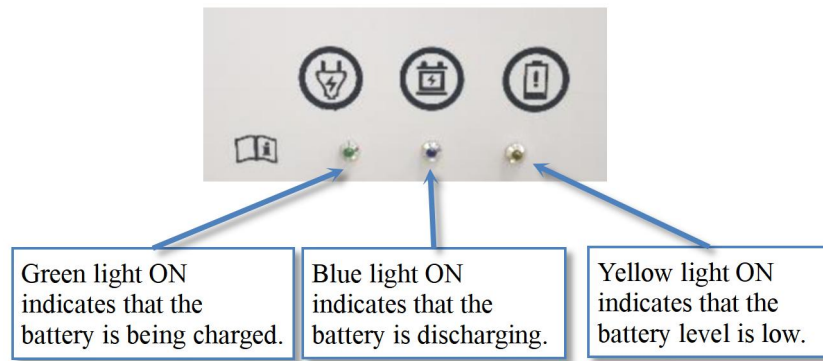

Figure 3.10 Surgeon Console UPS battery indicator
7. Battery indicator: Displays the current battery status of the UPS, as shown in Figure 3.10.